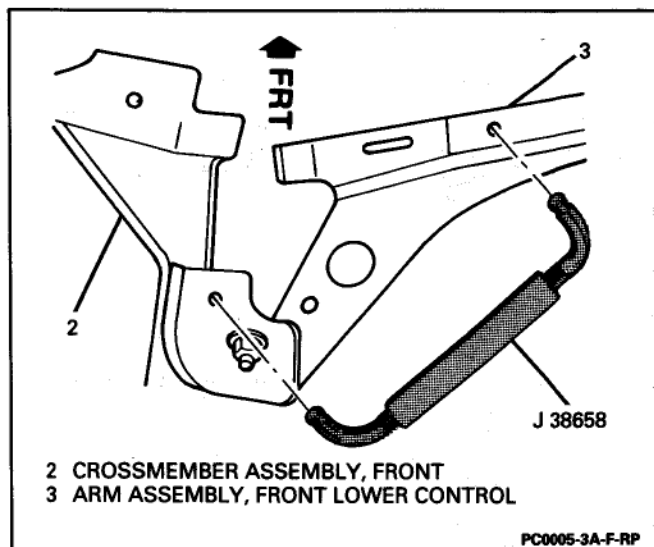

Figure 6 – Front Caster Adjustment
Figures 6 and 7
4. Install J 38658 to slot holes in lower control arm assembly (3) and front crossmember assembly (2) (Figure 6).